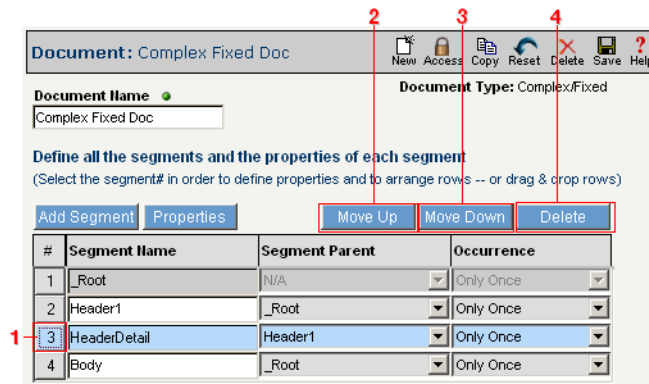

Figure 9-14. Click on the number of the entry you want to move, then use the **Move Up** and/or **Move Down** buttons to adjust the fields' order.
- ❶ Select the segment or field by clicking on its number as shown in Figure 9-14 below.
- ❷ Click **Move Up** to move the selected item further up one line.
- ❸ Click **Move Down** to move the selected item further down one line.
- ❹ (Optional) If you want to delete any entry, click the **Delete** button.